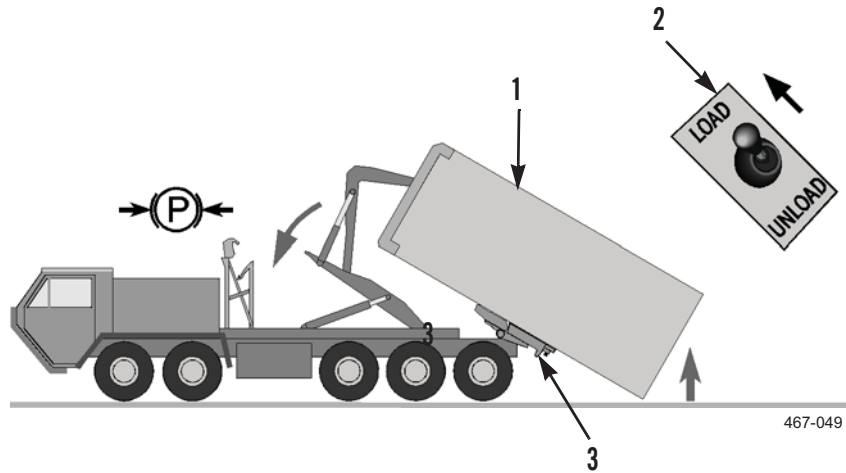

Figure 12. Parking Brake Applied.
5. As soon as container (Figure 12, Item 1) makes contact with rear sliders (Figure 12, Item 3) (and container is lifted from ground), apply parking brake. Keep joystick (Figure 12, Item 2) at LOAD and maintain engine speed (PLS: TM 9-2320-364-14&P, HEMTT: TM 9-2320-326-14&P).